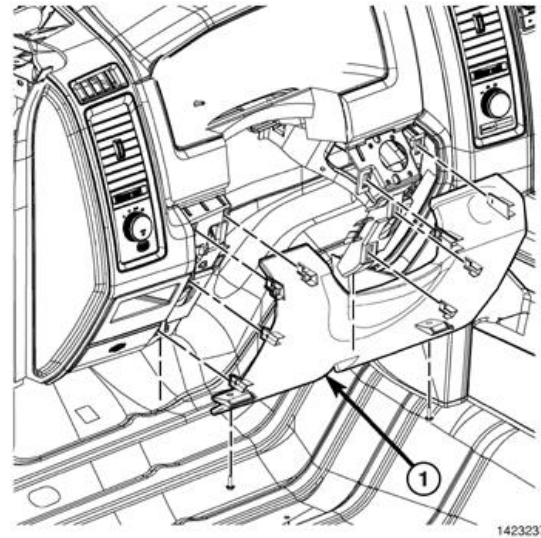

Figure 10 – Steering Column Opening Cover
21. Using a trim stick C-4755 or equivalent, release the retainer clips that secure the steering column opening cover (1) to the instrument panel and remove the cover (Figure 10).
8. Align the retainer clips that secure the steering column opening cover (1) to the instrument panel and install the cover (Figure 10).